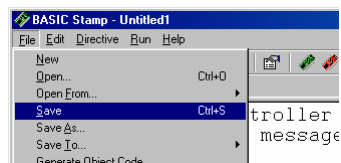

Figure 1-37: Saving the First Program
- ✓ Save your work by clicking *File* and selecting *Save* as shown in Figure 1-37.